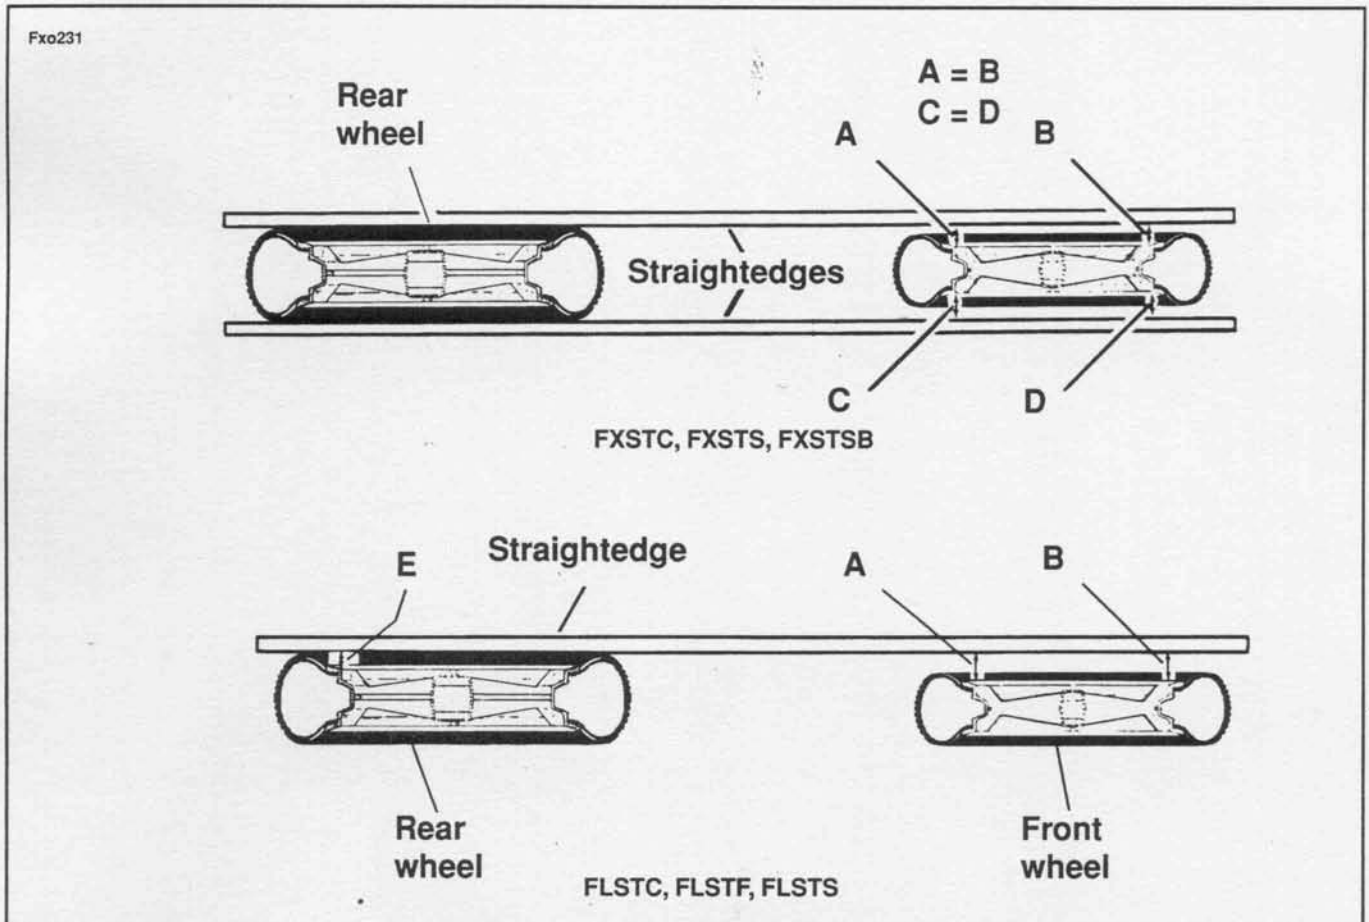

Figure 2-42. Horizontal/Wheel Offset Measurements
1. See Figure 2-42. Place a girder-type straightedge tightly against each side of the rear tire. Be sure they are parallel with each other.
1. See Figure 2-42. Place a girder-type straightedge tightly against the left side of the rear tire.